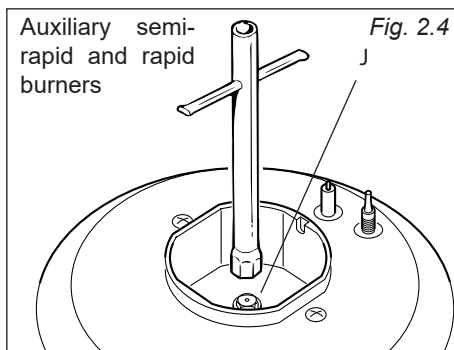

Fig. 2.4
- Using a wrench, substitute the nozzle injectors "J" (figs. 2.4, 2.5a, 2.5b) with those most suitable for the kind of gas for which it is to be used.